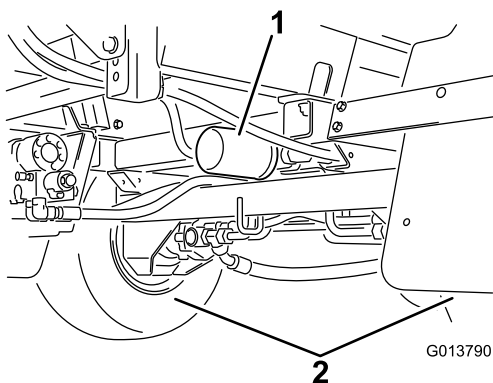

Figure 144
2. Locate the 2 hydraulic filters on the machine (Figure 143 and Figure 144).